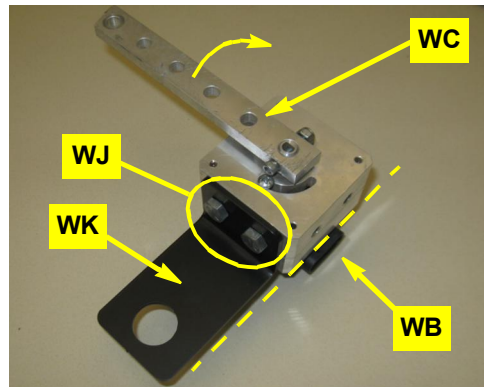

Figure 2a: WAS assembly on mounting bracket
a. Using hardware **WJ** mount the WAS assembly from step 1 on the outer face of bracket **WK**. Mount the WAS assembly with the base of wire connector **WB** flush with the bend in **WK** and connector arm **WC** arcing away from the long side of **WK** (Figure 2a).